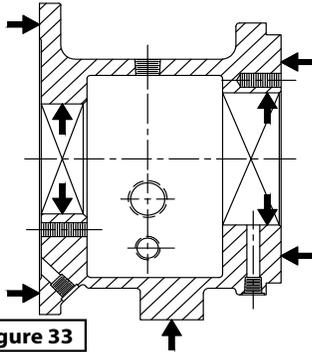

Figure 33
- Check all lubrication passages and make sure they are not clogged (see Figure 33).